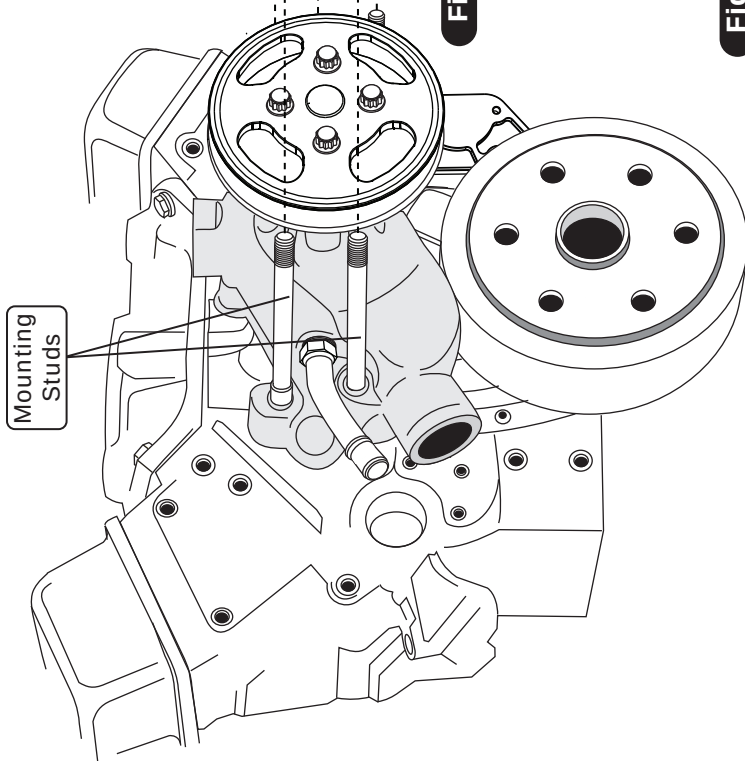

Figure 6
3. Secure the alternator to the power steering bracket using a 3/8-24 x 4" 12-Pt SS bolt, a 3/8-24 SS nyloc nut and a 3/8" AN SS washer (See Figure 6, Page 10). Torque to 24-28 lb ft.